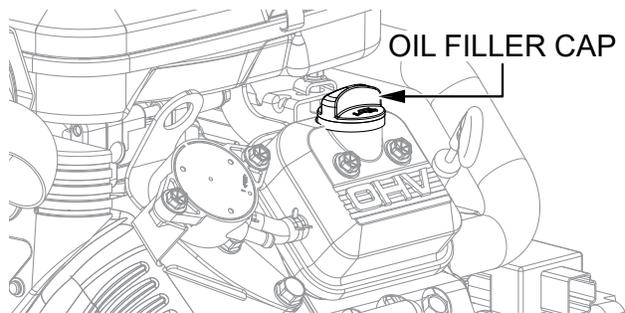

Figure 33. Oil Filler Cap
5. If the oil is below the lower mark on the dipstick, remove the oil filler cap (Figure 33) and add engine oil up to the upper mark on the dipstick. Refer to Table 6 for recommended oil viscosity.